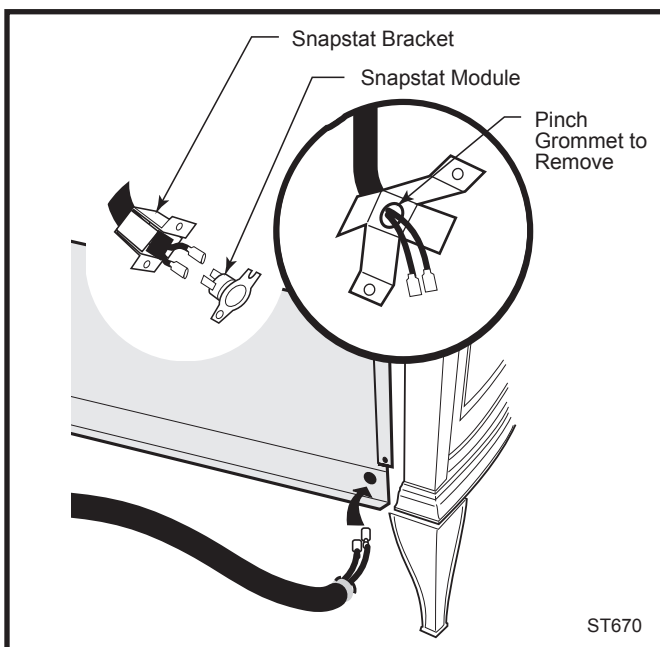

Fig. 10 Remove the snapstat and grommet from the bracket and insert the grommet into the inner shroud.
5. Connect snapstat leads. Disconnect the snapstat module from the leads inside the snapstat bracket. (Fig. 10) Bend open the snapstat bracket. Use needlenose pliers to remove the black plastic grommet from the bracket. Discard the bracket. Insert the grommet and wires into the large hole at the bottom right corner of the inner shroud. Feed the snapstat wire leads through the grommet into the stove interior. Connect the two wires to the two snapstat extension leads attached to the inner shroud.